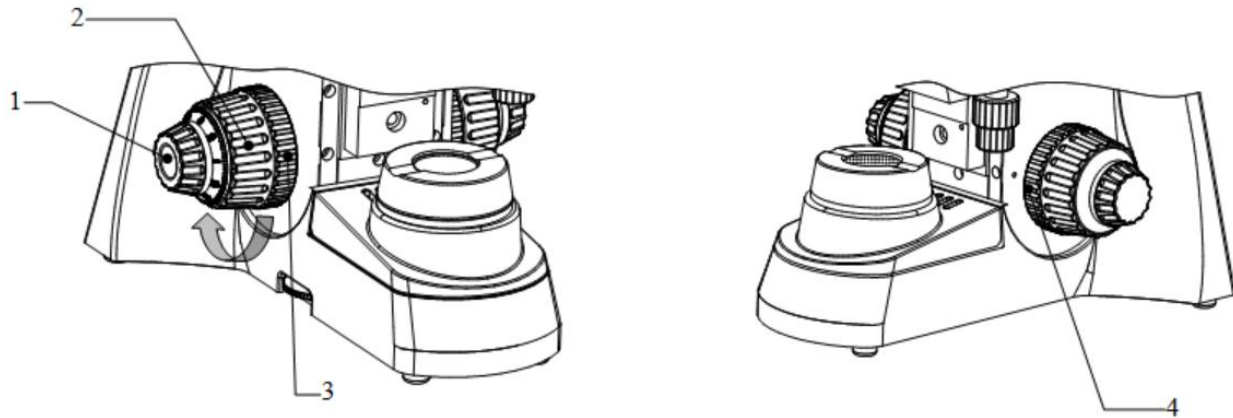

fig. 7
- (1) The control knob 1 is for fine focusing, the control knob 2 is for coarse focusing. Turn the coarse focusing control knob 2 anticlockwise to lift the objective and clockwise to lower it. As shown Fig.7
- (2) Put the 10X objective into the light path with the turn of nosepiece (When turn into the right position, the objective will has a automatic halt.).
- (3) Turn coarse control knob unit the stage in the highest position, observe through the eyepieces, slowly turn coarse control knob, with the stage slowly down, to focus until the image clear and stop turning.
- (4) Turn fine control knob to precision focus for a clearly image.
- (5) The knob 3 is to lock the stage position of height; this function is making sure the long working distance of objective not to be touched with stage or simple. When the stage be locked in the preset position with turn the coarse, you can rapidly focus the image clear.
- (6) The tension of the coarse focus control knob 2 is adjustable and preset at the factory for ease of use. If you wish to adjust the coarse focus tension, turn the tension knob 4 to adjustment. Turn the wheel anticlockwise increase the tension, and clockwise decreases it, as indicated by the arrow in the figure 7.